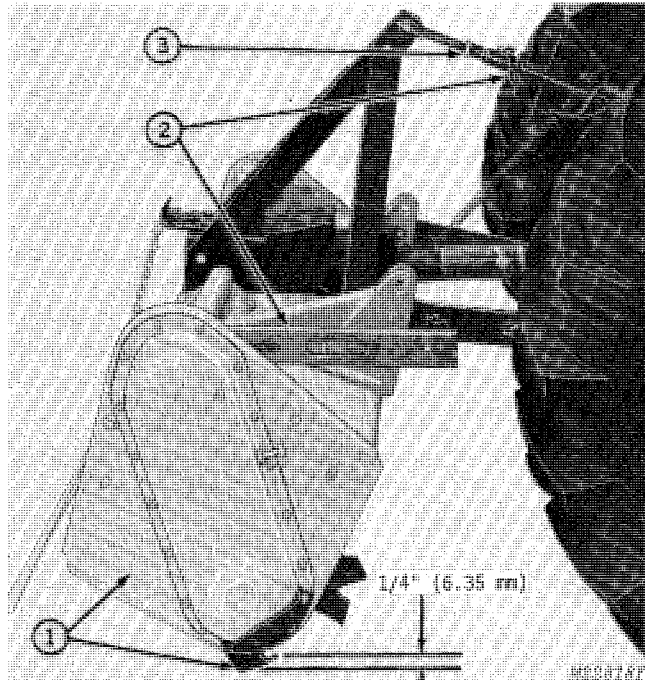

Fig. 5-Leveling Tiller Front-to-Rear
2. Adjust center link, Fig. 5, until top of tiller is level.